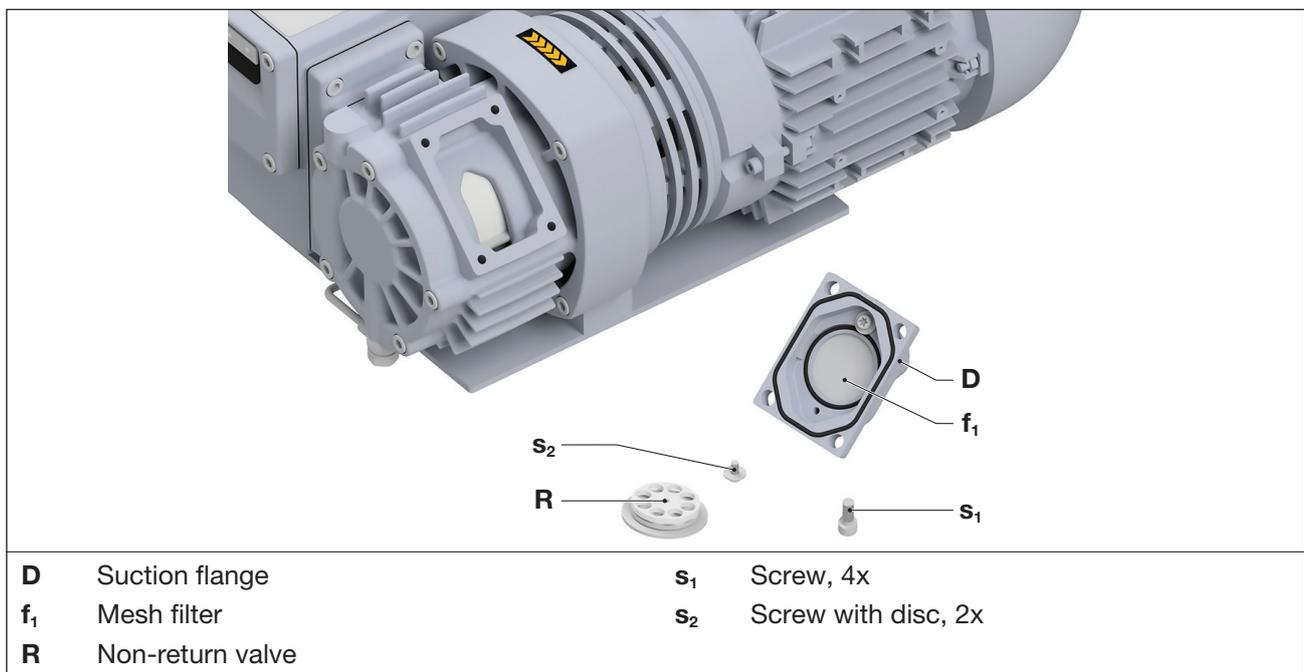

Fig. 5 Mesh filter
Depending on the pollution of the inlet medium, the mesh filter (Fig. 5/f1) in the suction flange has to be cleaned more or less by washing or blowing off or it must be replaced.
- Loosen the screws (Fig. 5/s1) on the suction flange (Fig. 5/D) and remove the suction flange.
- Loosen the screws with discs (Fig. 5/s2) on the non-return valve and remove the non-return valve (Fig. 5/R) from the suction flange. If the non-return valve is dirty, it can be cleaned by blowing off.
- Remove the mesh filter (Fig. 5/f1) from the suction flange and clean it.
- Reinsert the mesh filter (Fig. 5/f1) and the non-return valve into the suction flange (Fig. 5/D) and secure the non-return valve with the two screws (Fig. 5/s2). Tightening torque: 4 Nm
- Reassemble the suction flange to the housing and secure it with the four screws (Fig. 5/s1). Tightening torque: 10 Nm